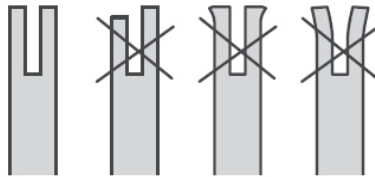

Fig. 22c
5). Check the guide bar 'rail' for wear: Hold a ruler (straight edge) against the side of the guide bar and 'cutter side plates'. If there is a gap between the ruler and guide bar the guide bar 'rail' is normal. If there is no gap (ruler flush against the side of the guide bar) the guide bar 'rail' is worn and needs to be replaced with a new one of the same type. (See Fig. 22c)